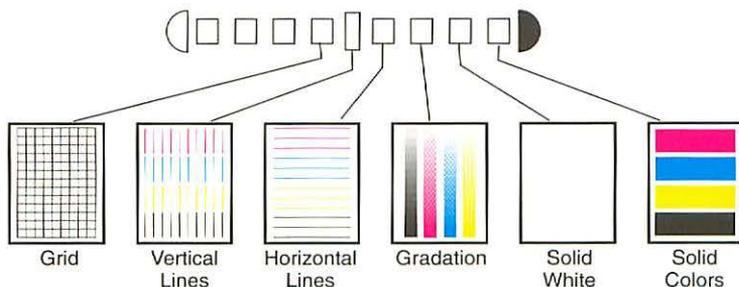

Figure 36. Test Patterns
2. Using the plus or minus button, advance the density gauge setting to illuminate the LED corresponding to the desired pattern (Figure 36). The density gauge LEDs will flash when the selected setting differs from the previously entered setting. (Only LEDs 4 through 9 on the density gauge correspond to available patterns.)